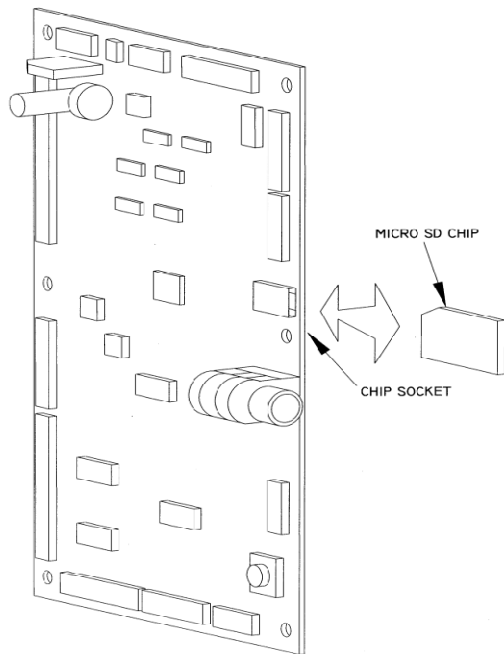

Figure 8.1 Loading Control Software
1. Locate the socket for the micro SD program card (Refer to Figure 8.1).